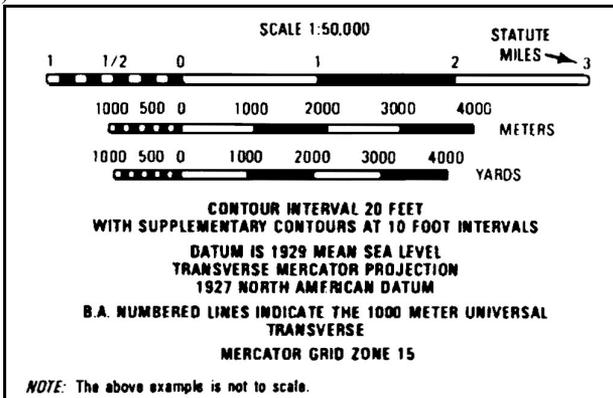

Figure 071-329-1008-1. Map bar scales
2. Convert a straight-line map distance to miles, meters, or yards using the map's bar scale for map distances equal to or less than 1 inch (figure 071-329-1008-1).